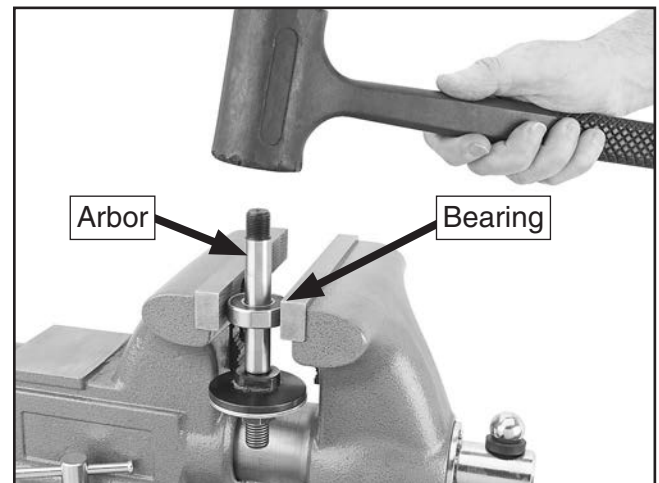

Figure 135. Removing arbor bearing.
18. Place the arbor in a vise, as shown in **Figure 135**, with the vise teeth clamping the bearing, then use a soft rubber hammer to force the arbor out of the bearing.